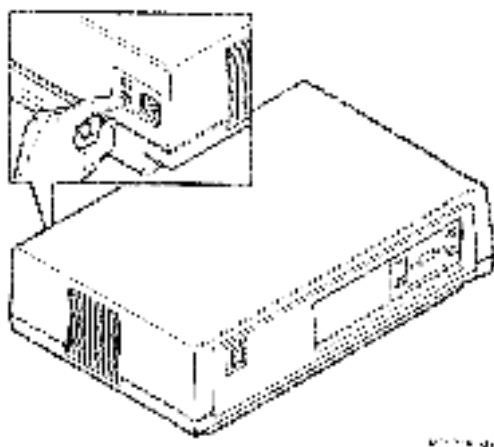

Figure 2-3 Circuit Breaker
2. If the circuit breaker tripped, reset the circuit breaker by pushing it in (Figure 2-3).